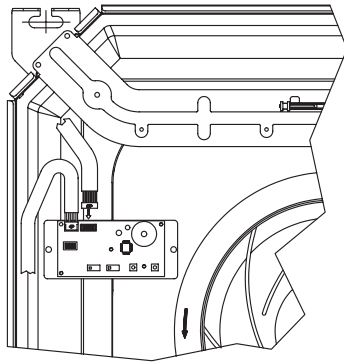

Fig. 2
- (2) Connect, in the same place, the wire coming from grille assembly. (fig. 2)